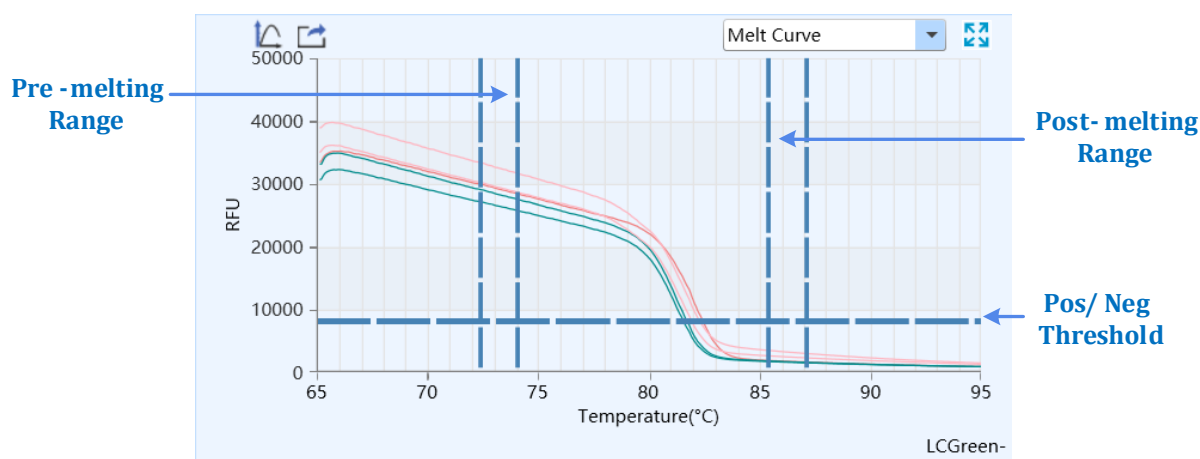

Figure D-14.1 HRM analysis interface - Melting Curve functional module
I. **Melting Curve:** display the fluorescence intensity against the temperature, as shown in figure D-14.1.